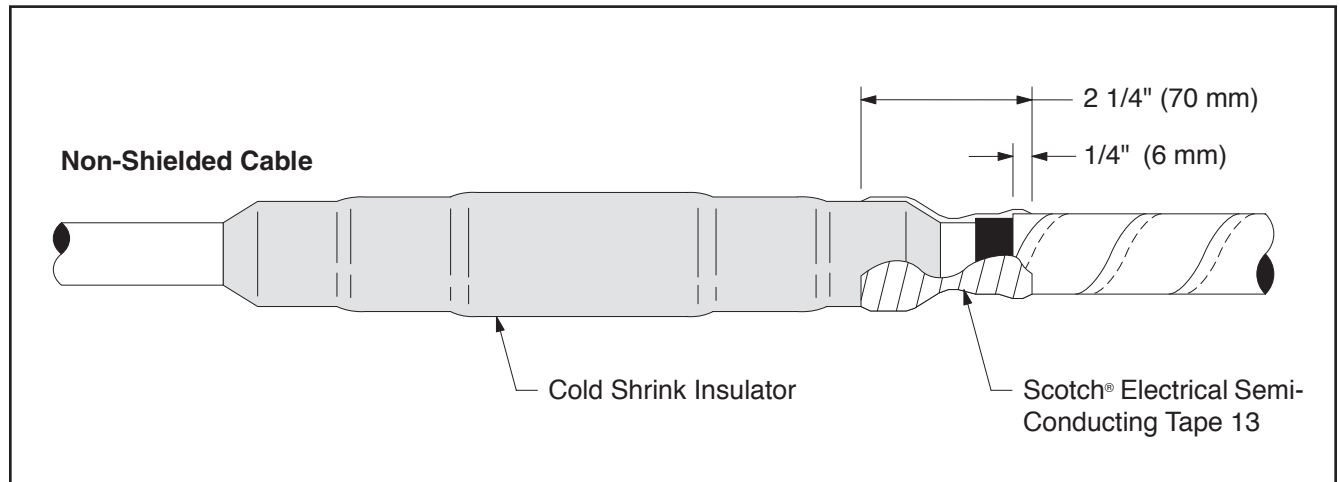

Figure 14
- a. Starting 1/4" (6 mm) from cable's metallic shielding (i.e., tape, wire or UniShield®), apply 2 half-lapped layers of Scotch® Electrical Semi-Conducting Tape 13 over the end of the cold shrink insulator for a total wrapped distance of 2 1/4" (70 mm) (Figure 14).